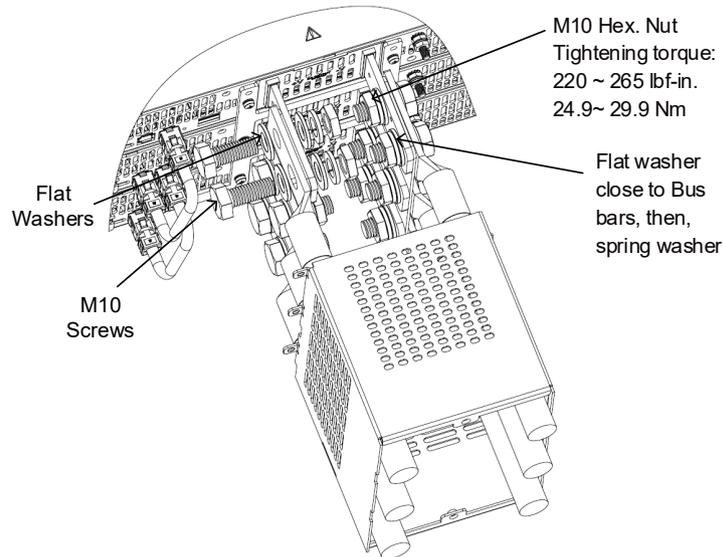

Figure 4-50: Assembly of 20V - 40V Wires
3. Fix the wires to the Bus bars as shown in Figure 4-50 (15kW is shown, it applies to 10kW as well).